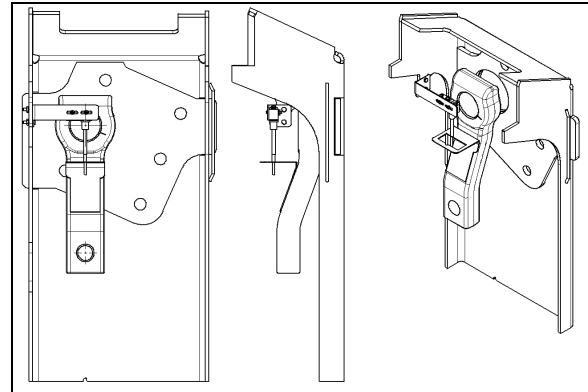

FIGURE 21: TAG AXLE UNLOADING SWITCH ADJUSTMENT
2. Line up switch lever with reference to the bracket center (Refer to figure 21).